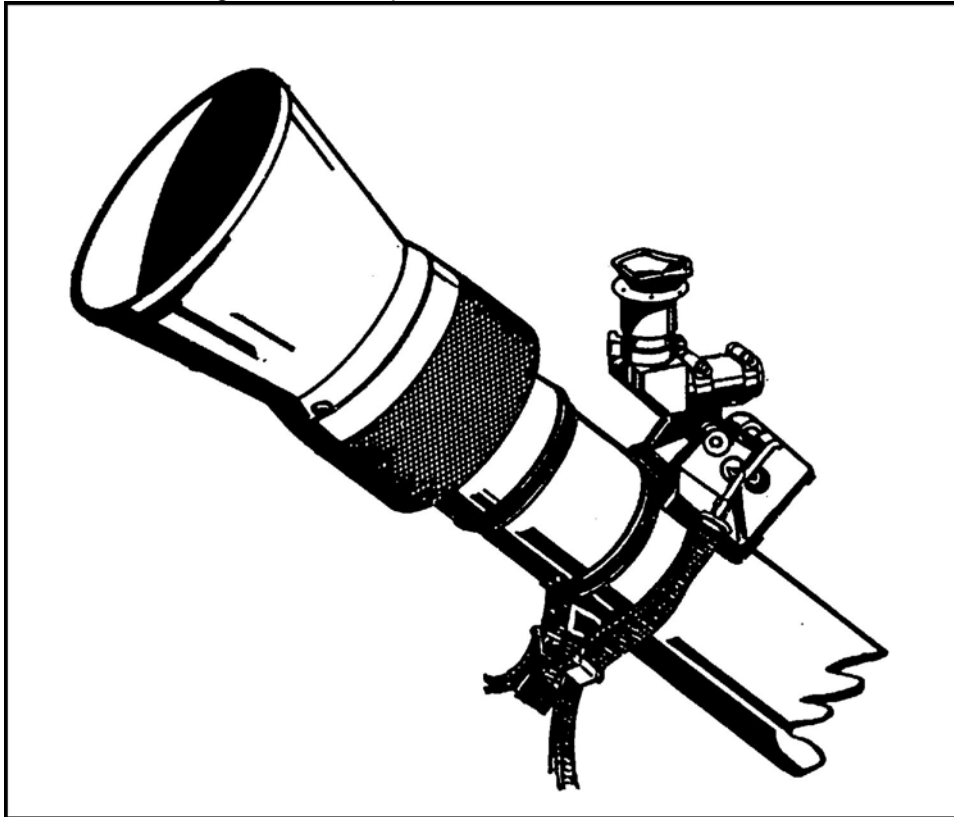

Figure 1. M45 boresight attached to barrel.
- a. Attach the M45 boresight to the barrel below, touching the upper stop band (Figure 1). Center the cross-level vial by slightly rotating the boresight on the mortar barrel. Slight movements may be made by loosening the clamp screw and lightly tapping the boresight body. When the bubble is centered, tighten the clamp screw.
a. Ensure the M45 boresight is still attached to the barrel as shown in Figure 1.